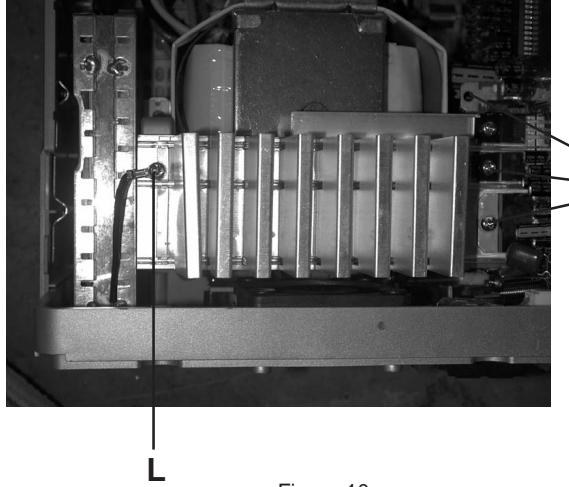

Figure 10
- 2) Loosen 1 screw " L" on the heatsink as shown in Figure 10.
- 6) Loosen 3 screws " O" on the heatsink as shown in Figure 10. Remove the heatsink from the amplify board.